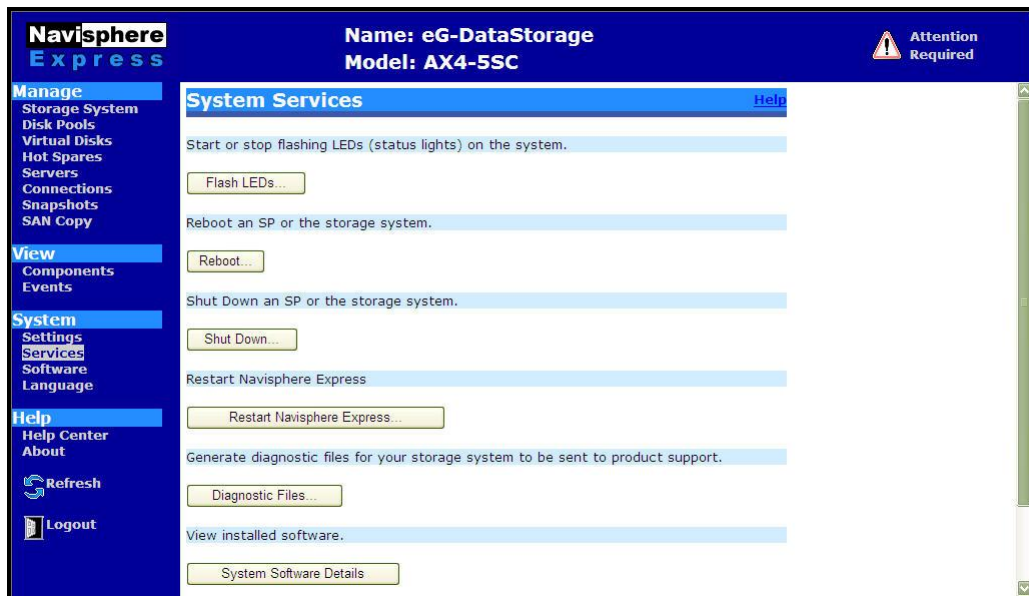

Figure 1.5: The System Services section
5. A **System Services** page will then appear in the right panel (see Figure 1.5). Click on the **Diagnostic Files** button in Figure 1.5.